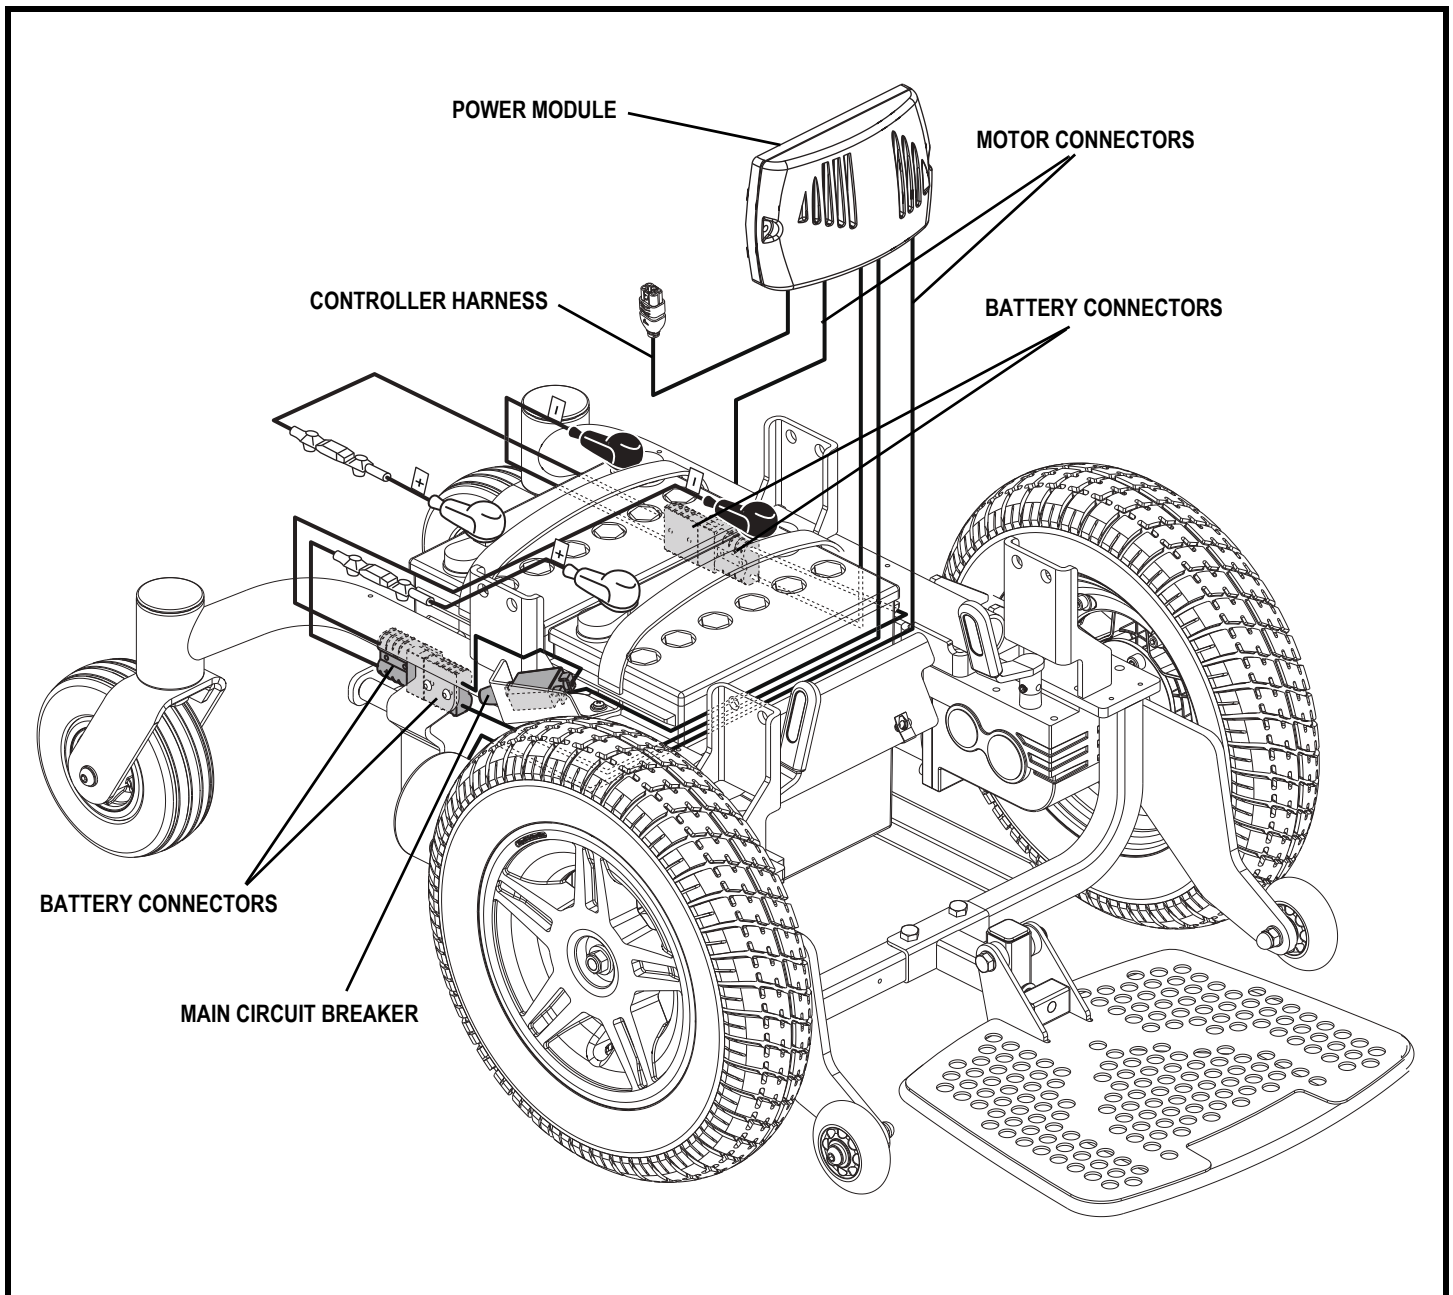

Figure 3. Jazzy Elite Series Electrical Components
The electrical components are located either on or inside the power base. The main circuit breaker is located on the right side of the power base. The power module is located under the front cover. See figure 3.
Main Circuit Breaker: The main circuit breaker is a safety feature built into your power chair. When the batteries and the motors are heavily strained (e.g., from excessive loads), the main circuit breaker trips to prevent damage to the motors and the electronics. If the circuit trips, allow your power chair to “rest” for approximately one minute. Next, push in the circuit breaker button, turn on the controller, and continue normal operation. If the main circuit breaker continues to trip repeatedly, contact your authorized Pride Provider. See figure 3.
5. Plug the controller connector into the front of the power base. See figure 3.
3. Unplug the controller connector(s) from the power base. See figure 3.